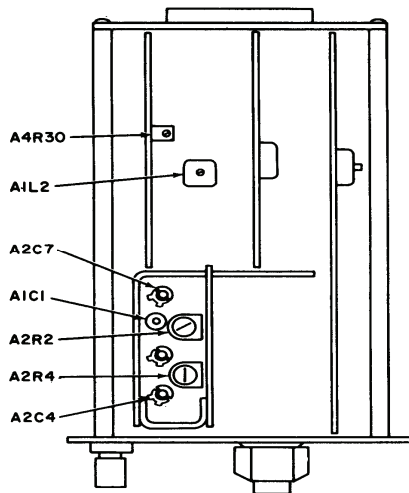

Figure 2. Ac/dc range unit - adjustment locations.
- (1) Adjust calibrator for an output of 9.0000 V.
- (2) Adjust A4R30 (fig. 2) to obtain an indication of 9.000 on TI.